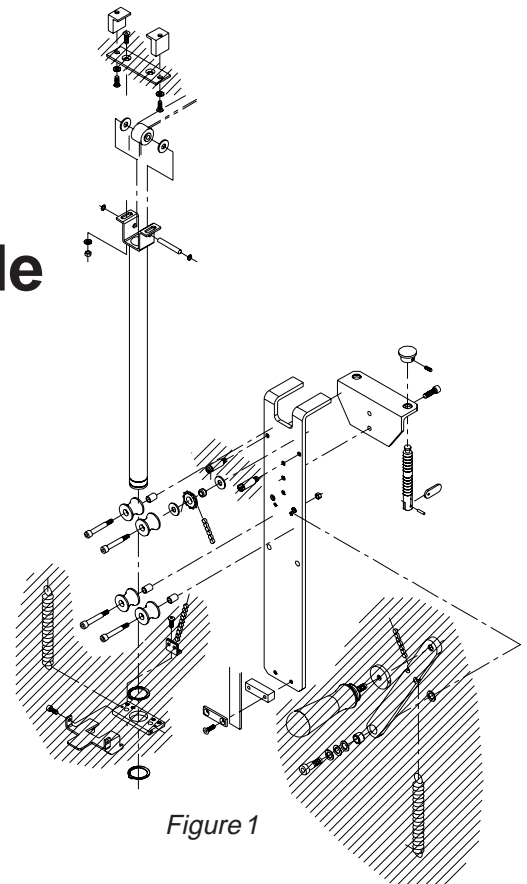
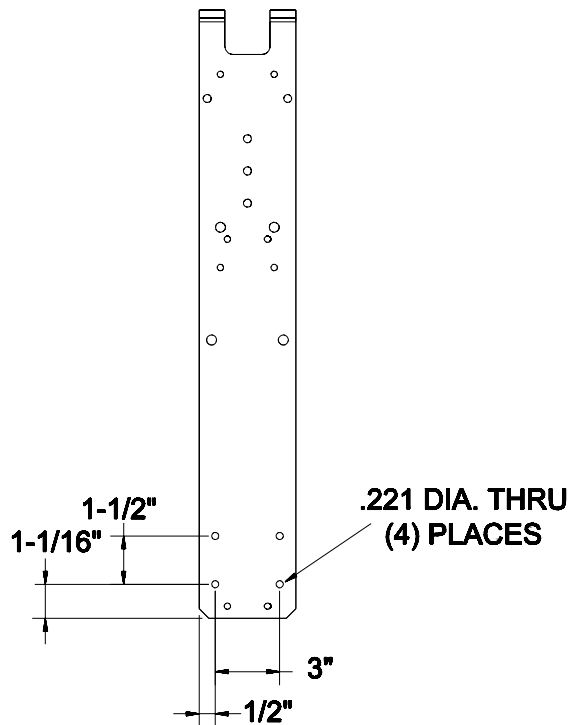

Figure 1
Figure 2
Remove the components as shown in figure 1. Drill (4) .221 Dia. holes in the frame as shown in figure 2. Assemble the new air lift components as shown in figure 3.